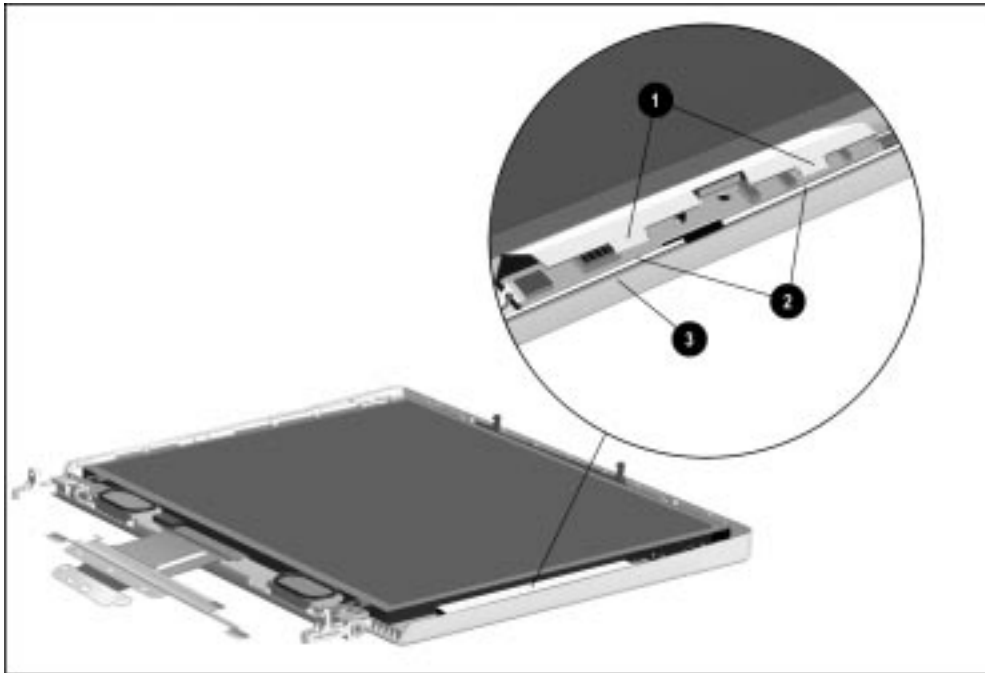

Figure 5-66. *Replacing the Inverter Shield*
CAUTION: When installing the display panel, make sure the tabs on the inverter shield ❶ are inserted between the sheet metal ❷ and the outside plastic edge ❸ of the display enclosure (Figure 5-66). Failure to properly insert the inverter shield can result in damage to the display assembly.